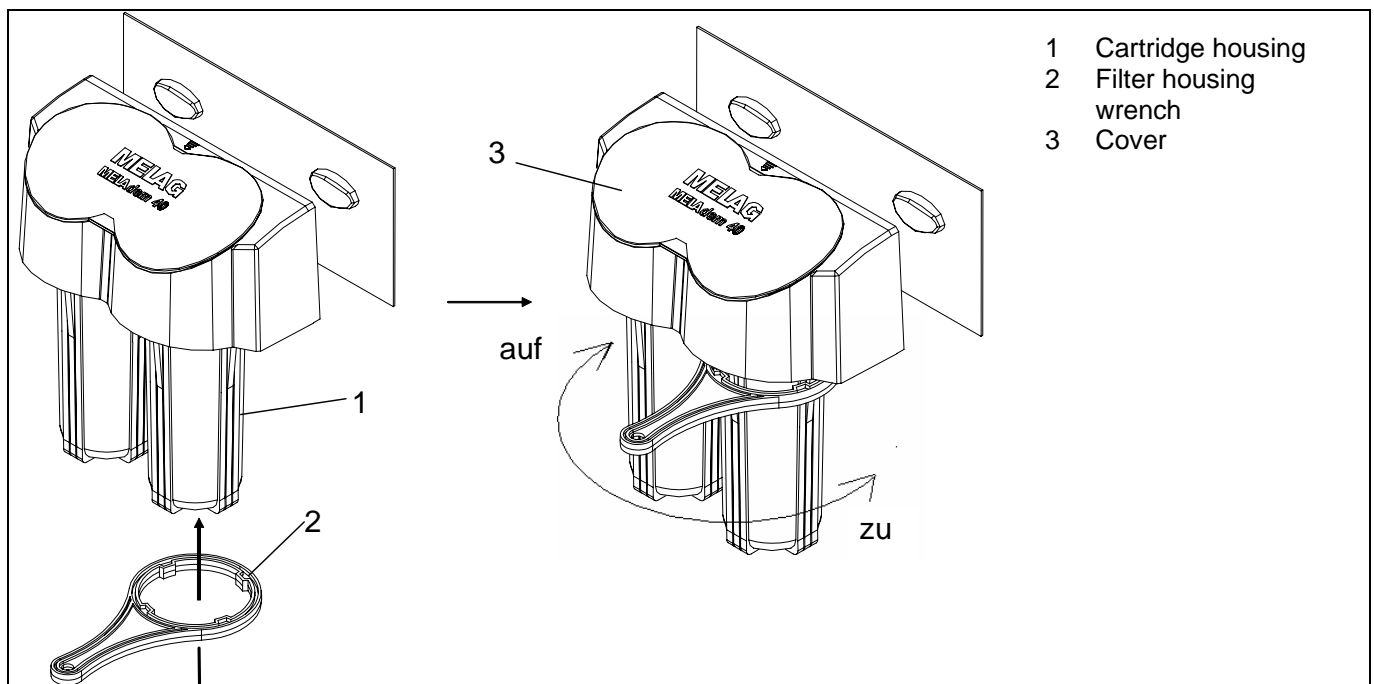

Figure 18: How to use the cartridge housing wrench
- Slide the wrench from the bottom onto the filter enclosure, and move it up toward the top as far as will go. Allow it to lock into place there. Open each of the container elements by turning the wrench clockwise (as seen from above): see Figure 18). As soon as the container elements can be easily turned, you can remove the wrench and unscrew the elements by hand for the last turns..
- Slide the wrench from the bottom onto the filter enclosure, and move it up toward the top as far as will go. Allow it to lock into place there. Open each of the container elements by turning the wrench clockwise (as seen from above): see Figure 18. As soon as the container elements can be easily turned, you can remove the wrench and unscrew the elements by hand for the last turns.